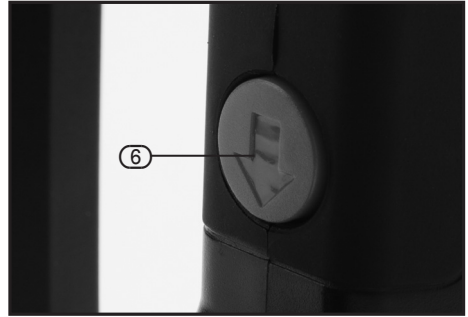

FIG.1
8.1 CHARGING THE BATTERY (230V MAINS) - FIGS. 1 & 2